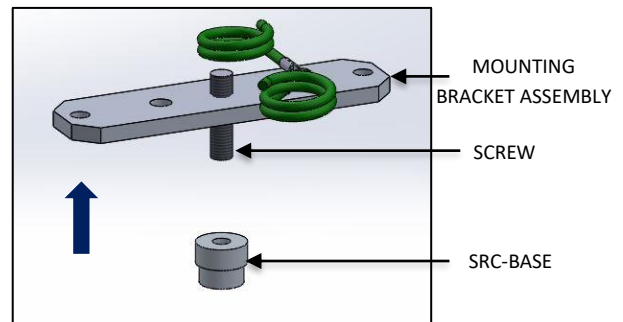

FIG. 13 - SRC-BASE INSTALLATION
10. Assemble the SRC BASE to the SCREW (Available in mounting bracket assembly) as shown below in FIG.13.